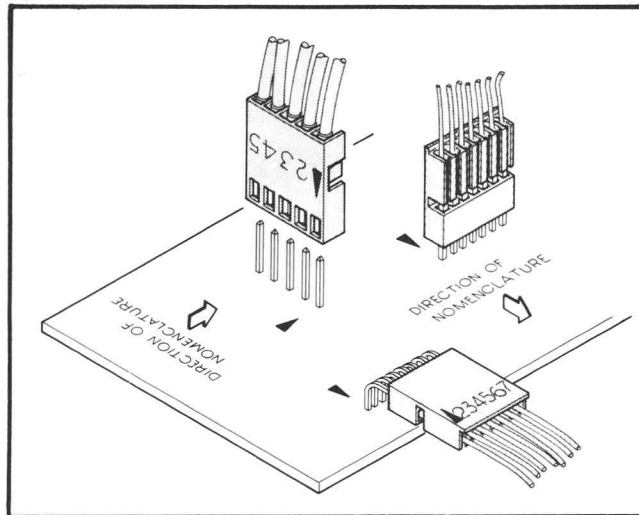

Fig. 3-1. Multipin Circuit Board Connectors.
**Multiple Terminal Connector Holders.** Most inter-circuit connections between the circuit boards, or between the boards and chassis mounted components, are made through pin connectors. The terminals in the connector holder are identified with numbers. Connector orientation to the circuit board is keyed with triangles, one on the holder and one on the circuit board. See Fig. 3-1.